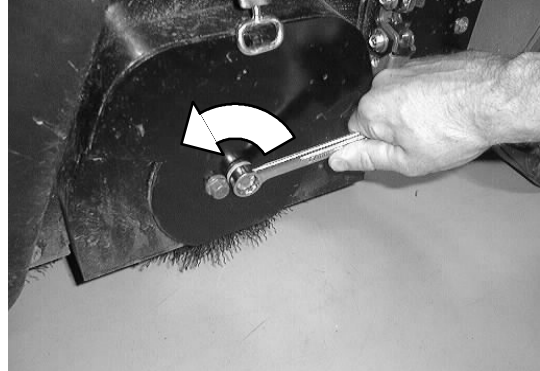

**FIG. 9B**
6. If one, or both of the brush patterns are tapered, the brushes need adjustment to straighten the brush pattern. (Fig. 9B)
1. Check the dimensions of the pattern in the chalk. The fixed end of the brush should be 2", and the same as the last 6-9" on the opposite end of the pattern. (Fig. 9B)